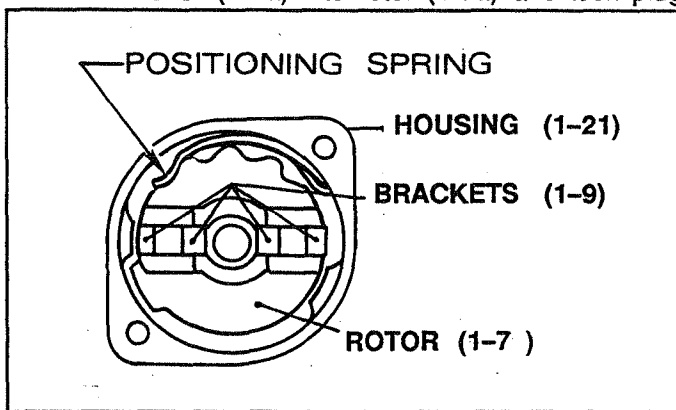

Figure 5. Proper Positioning of Rotor
- (1) If used, assemble spring (1-10), bracket (1-9) and pin (1-8) into rotor (1-7).
- (2) Assemble radial tang of spring (1-11) into rotor (1-7) groove.
- (3) Assemble spring retainer (1-12) hole onto axial tang of spring (1-11) with boss on retainer (1-12) towards rotor (1-7). Wind retainer (1-12) counter-clockwise until retainer arm rests in recess in rotor (1-7).
- (4) Orient rotor (1-7) assembly so ridged portion aligns with positioning spring in housing (1-21). Refer to Figure 5. Seat rotor (1-7) completely into housing (1-21).
- (5) Assemble bushing (1-19) (if used), lock plug (1-20) or shaft (1-18) into housing (1-21) and rotor (1-7) assembly. Chamfered edges on lock plug (1-20) and shaft (1-18) allow parts to be assembled only one way. During assembly, support rotor (1-7) with fingers to prevent pushing it back out of housing (1-21). Assemble washer (1-6), lockwasher (1-5) and screw (1-1) into rotor (1-7) and lock plug (1-20) or shaft (1-18). Tighten and adjust screw (1-1) to allow no binding during switch operation and minimal end play. If this is not possible, replace lock plug (1-20) or shaft (1-18).
- (6) Insert springs (1-4) into recesses in rotor (1-7). Assemble contacts (1-3) onto springs (1-4). Align boss in support (1-2) with notch in housing (1-21) and assemble with two screws (1-1).
- (7) Test switch in accordance with Testing procedures.
- (1) Assemble contacts (1-3a, 1-3b), screws (1-25, 1-26), washers (1-27, 1-5a) and nuts (1-28) onto support (1-2a). Apply 8-11 lb. in. torque to each inner nut (1-28).
- (2) Align rotor (1-7a) in housing (1-21) as shown in Figure 5. Seat rotor (1-7a) completely into housing (1-21).
- (3) Insert lock plug (1-20) into rotor (1-7a) and assemble screw (1-1), lock washer (1-5a) and washer (1-6a) into rotor (1-7a) and lock plug
- (4) Assemble springs (1-10a) and brackets (1-9) into rotor (1-7a). Brackets (1-9) should slide freely into and out of rotor (1-7a) and should be aligned as shown in Figure 5.
- (5) Align boss on support (1-2a) with notch in housing (1-21) and assemble with two screws (1-1).
- (6) Test switch in accordance with Testing procedures.